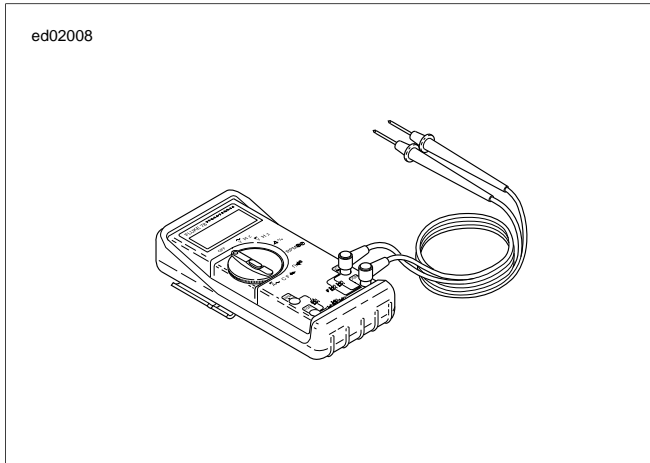

Figure 1-28. Digital Multimeter (Fluke 78) (Part No. HD-39978)
1. See Figure 1-28. Connect DIGITAL MULTIMETER (FLUKE 78) (Part No. HD-39978) to wiring harness between the suspect connections. When diagnosing ECM connections, use BREAKOUT BOX (Part No. B-48115) to simplify the procedure. See 1.2 DIAGNOSTIC TOOLS.